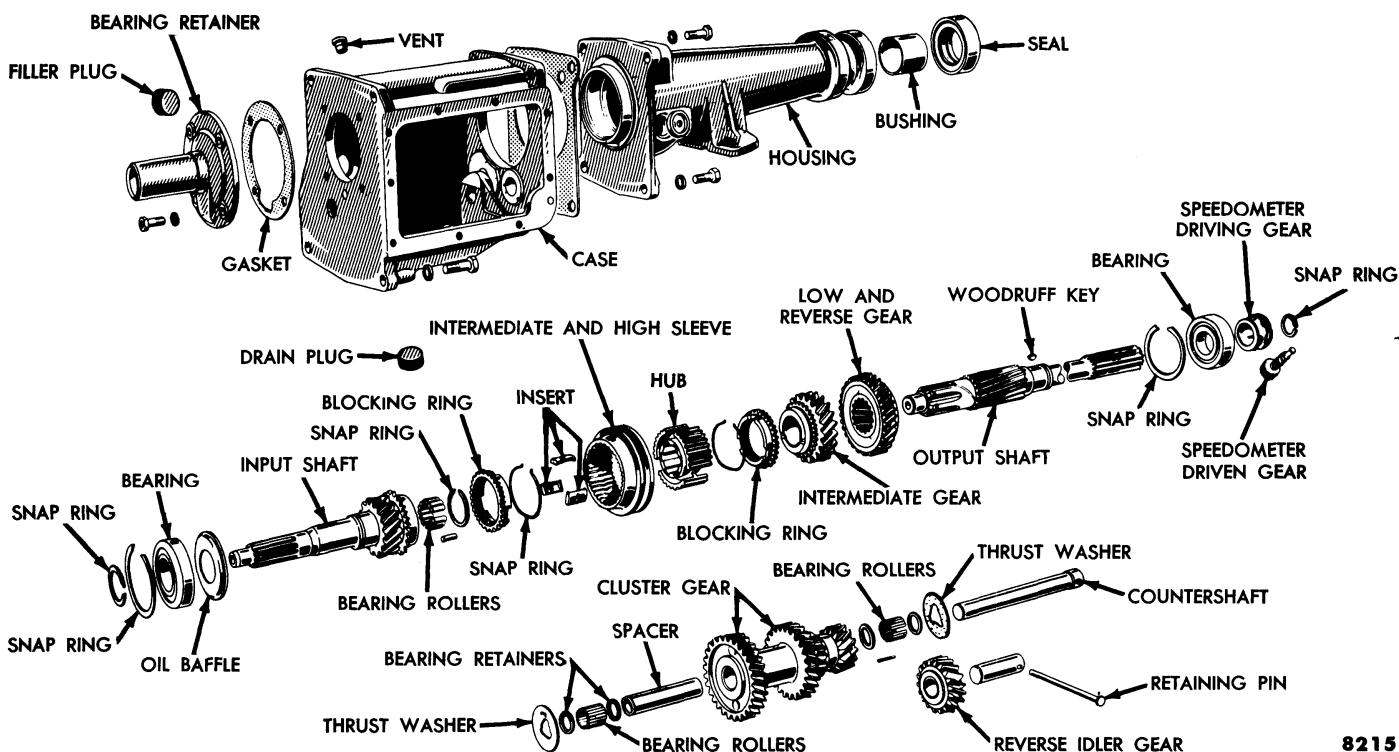

Fig. 12—Conventional 3-Speed Transmission
The input shaft (fig. 12) is supported by a ball
screws and washers that secure the extension (fig. 12) to the transmission case. Turn the extension $\frac{1}{4}$ turn counterclockwise to permit removal of the countershaft. Drive the countershaft to the rear so that it clears the front of the transmission case. Push the countershaft out the rear of the case, with a cluster gear roller retainer shaft tool. Leave the cluster gear and dummy shaft in the case. Remove the extension and output shaft assembly from the rear of the transmission case. Drive the reverse idler gear shaft out of the case with a brass drift, then remove the reverse idler gear.
(1) **OUTPUT SHAFT ASSEMBLY.** Remove the snap ring that holds the output shaft assembly in the extension. Tap the output shaft (fig. 12) out of the extension, with a soft hammer. Remove the transmission output shaft synchronizer snap ring and pull or press the synchronizer assembly, intermediate gear, and sliding gear off the output shaft.
(2) **SYNCHRONIZER ASSEMBLY.** Push the synchronizer hub out of the sleeve (fig. 12). This releases the three synchronizer inserts. Remove the synchronizer insert springs from each end of the synchronizer hub.
ring that secures the bearing on the shaft, and press the bearing off the shaft. Remove the oil baffle from the shaft (fig. 12).
(1) **COUNTERSHAFT GEAR.** Position the countershaft bearing spacer in the countershaft gear (fig. 12). Insert a dummy shaft in the countershaft gear assembly. Install 22 rollers in each end of the gear cluster. Coat the bearing retainers and thrust washers with grease to help keep them in place. Install a bearing retainer at each end of the countershaft gear.
place, applying pressure to the inner race, and install the snap ring on the shaft to secure the bearing (fig. 12). Install the snap ring on the input shaft bearing. Coat the output shaft front bearing rollers with cup grease, then install the rollers in the input shaft.
(3) **SYNCHRONIZER.** Install a synchronizer snap ring at each end of the hub (fig. 12) with the ends of the springs between the same two inserts. Place the synchronizer inserts on the synchronizer hub. Align the etched mark on the sleeve and push the hub inside the synchronizer sleeve. If a new hub or sleeve is installed, be sure that the backlash does not exceed 0.001 inch between the hub and the sleeve. Place the synchronizer ring on the synchronizer assembly, making sure the slots are in line with the synchronizer inserts.
Install the output shaft rear bearing on the shaft, and press it into place. Install the speedometer gear key in the shaft. Install the speedometer gear on the shaft and secure it with the lock ring (fig. 12). Install the sliding gear, intermediate gear, and the synchronizer assembly on the output shaft, and secure them with the snap ring.